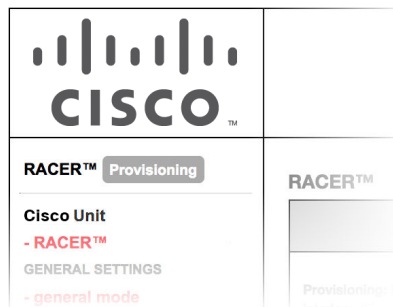

Figure 15. Racer status icon (Provisioning Mode)
- Check that the unit is in Provisioning Mode by looking at the colored icon to the right of the **RACER™** tag in the upper left-hand corner of the screen (Figure 15 \(page 60\)).